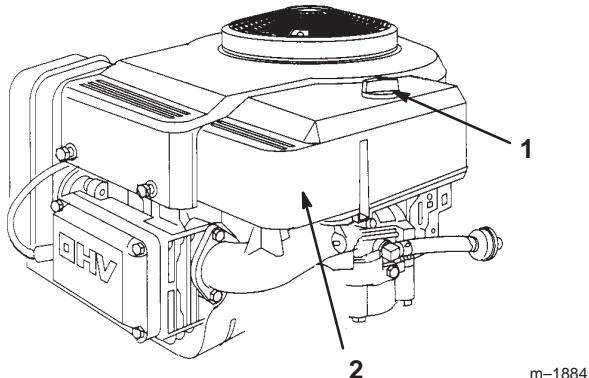

Figure 25
- Pull the fuel line off of the filter (Fig. 25) and allow gasoline to drain into a gas can or drain pan.
The best time to replace the fuel filter (Fig. 25) is when the fuel tank is empty. Never install a dirty filter if it is removed from the fuel line.
- Squeeze the ends of the hose clamps together and slide them away from the filter (Fig. 25).